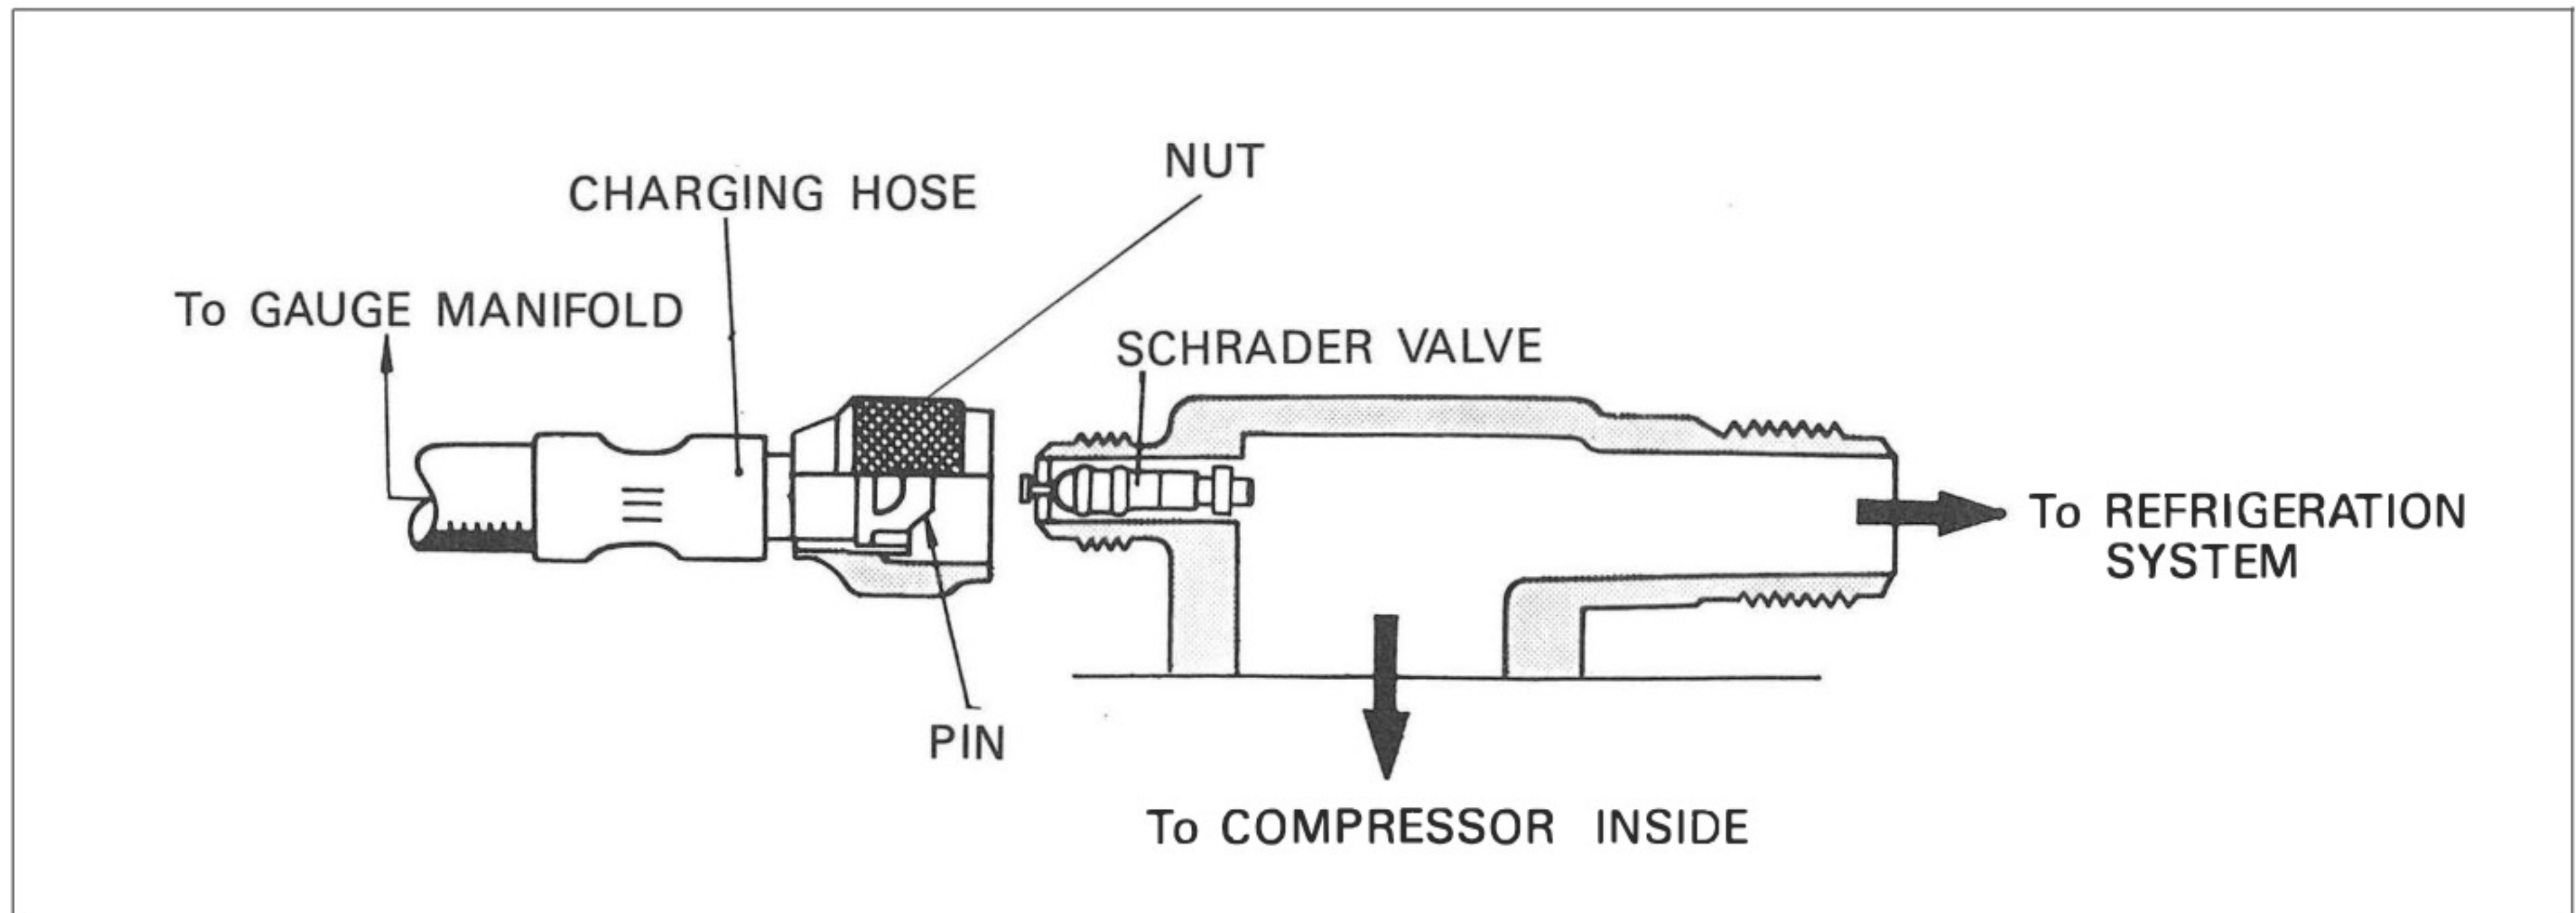

Fig. 1
- A) The fittings for attaching the gauge manifold set are located on the compressor service valves. Each service valve has a schrader type valve as shown in Fig. 1. To open this valve the charging hose end, with pin attached, should be fitted to the compressor.